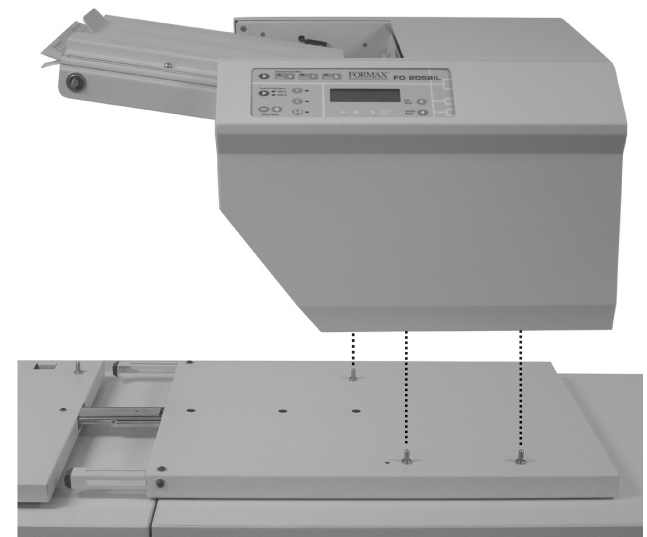

Fig. 3
1. Align the 2052IL with the pins located on the alignment base and lower into position. (Fig. 3)